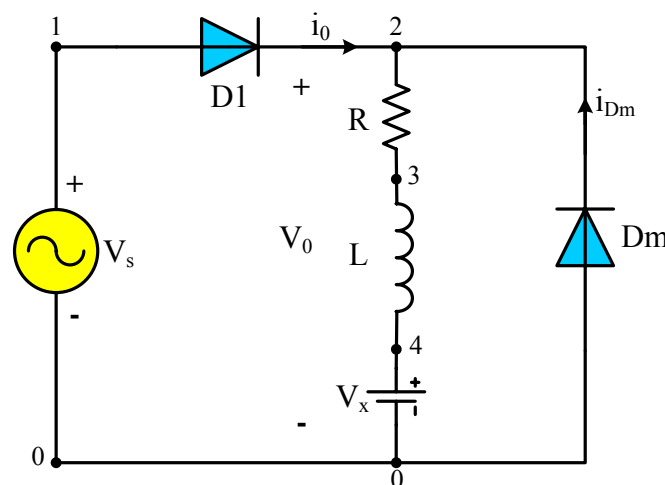

Figure 1-6 Single-phase half-wave rectifier with free-wheeling diode
- A free-wheeling diode D_m is normally connected across the inductive load to smooth the output current, thereby improving the input power factor. This is shown in Fig. 1-6. The output current $I(VX)$, the free-wheeling current $I(D_m)$ and the input current – $I(VS)$ are shown in Fig. 1-7. Run the simulation of Fig. 1-6 and complete Table 1-2 for two values of load inductances.